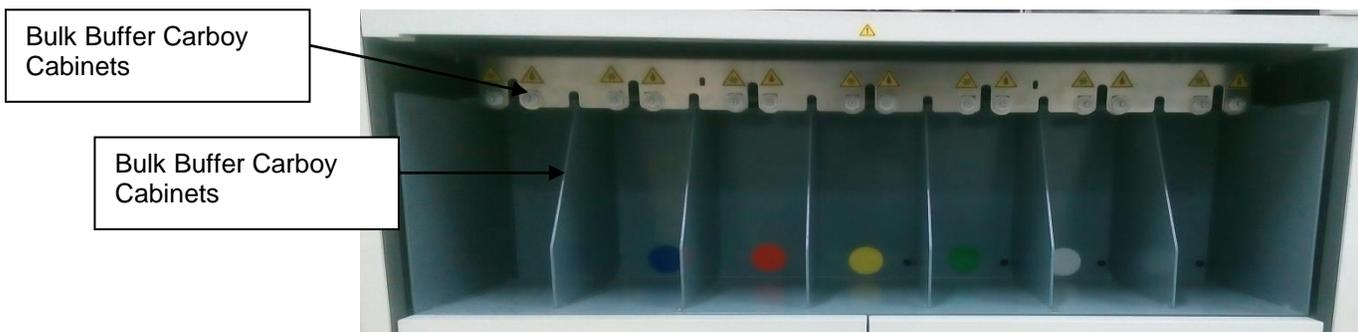

Fig. 2: "Liquid Panel" of the Workstation
1. To insert a carboy, push the carboy into a position until it locked into the connectors (**Fig.2**).
2. Insert carboys according to the color labels by pushing carboy into the appropriate position. (**Fig.2**).